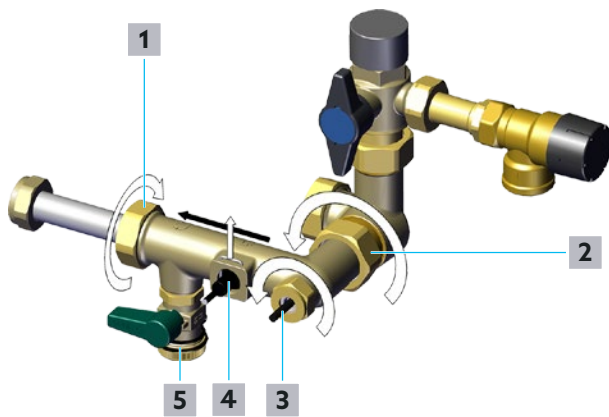

Fig. 32: Cleaning of the measuring turbine
- 7 Loosen the clamp of the volume flow sensor (position 4 in Fig. 32 on page 50) and put it aside.
- 8 Loosen the union nut of the temperature sensor for potable water (cold)/circulation S3 (position 3 in Fig. 32 on page 50).
- 9 Carefully pull the volume flow sensor for potable water circuit (position 4 in Fig. 32 on page 50) and the temperature sensor for potable water (cold)/circulation S3 (position 3 in Fig. 32 on page 50) out of the fitting.
- 11 Loosen the union nut potable water supply (position 2 in Fig. 32 on page 50) with a 38 mm spanner.
- 12 Loosen the union nut heat exchanger side (position 1 in Fig. 32 on page 50) with a 37 mm spanner.
- 14 Clean the sleeve with measuring turbine. Remove residues such as hemp residues with (running) water. Direct the flowing water through the fitting in the opposite direction to the direction of flow (from the direction of position 1 to the direction of position 2 in Fig. 32 on page 50). A water hose with an appropriate spray nozzle is particularly suitable for this purpose.
- 4 Install the volume flow sensor for potable water circuit (position 4 in Fig. 32 on page 50) and the temperature sensor for potable water (cold)/circulation S3 (position 3 in Fig. 32 on page 50).